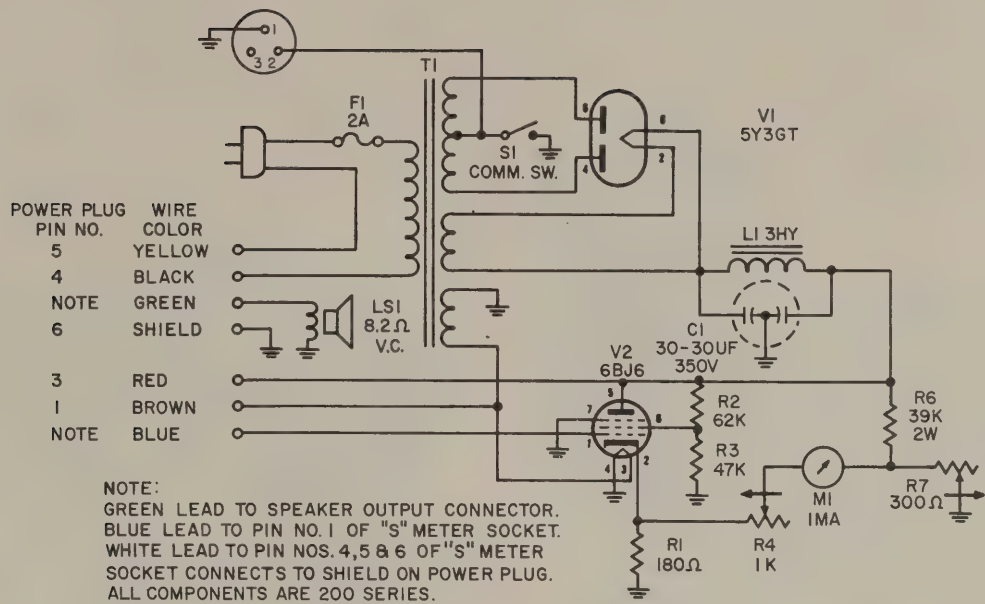

Figure 6. A.C. Power Pack, schematic
A.C. Power Pack. The schematic for the A.C. Power Pack (see figure 6) shows a full-wave rectified and filtered type power supply. The pack is equipped with a COMMUNICATION SWITCH on the front panel that opens the high voltage return circuit but leaves the filaments of the Receiver hot — for break-in purposes. Should the operator want this function remoted to a relay by the transmitter circuit, you need only to set the COMMUNICATION SWITCH to the OFF position and connect the remoting circuit to a plug, for this purpose, on the back of the AC Power Pack. It will be necessary to purchase a standard Amphenol 3-pin plug No. 71-3S and connect it to mate the socket in the schematic drawing in figure 6 for remote operation.